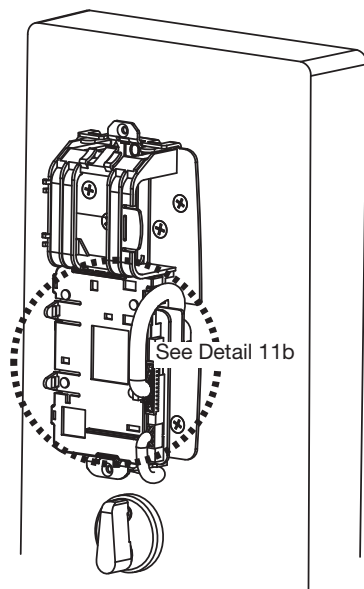

Fig. 11a
- Tilt the module upward and secure the top two tabs into the mounting plate (Fig. 11a).
Secure the following connectors to the circuit board as shown (Fig. 11a and 11b Detail).